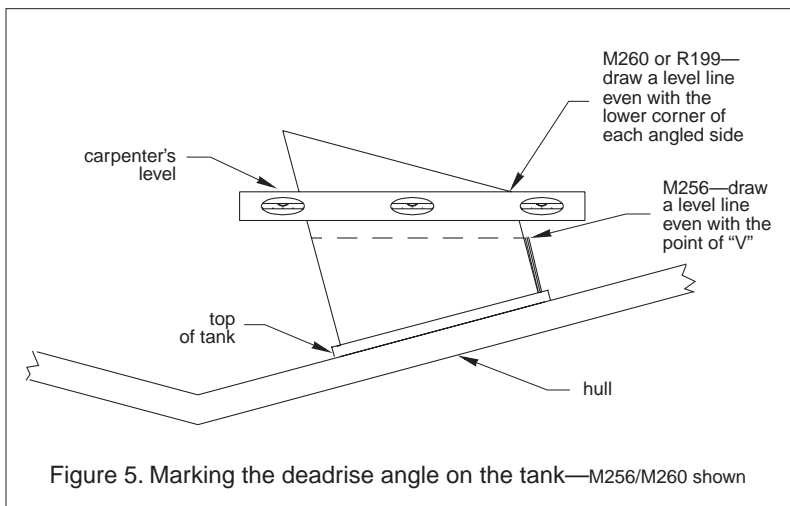
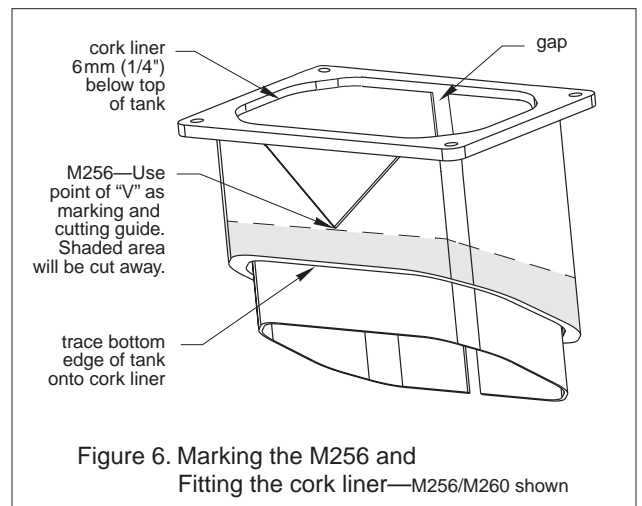

Figure 5. Marking the deadrise angle on the tank—M256/M260 shown
Figure 6. Marking the M256 and Fitting the cork liner—M256/M260 shown
1. When you are satisfied that the location of the transducer is optimal, place the tank *up-side-down* on the hull at the selected mounting location (see Figure 5). *Be sure the tallest side of the tank is nearest the centerline (keel) of the hull.*
**M256**—With a carpenter's level held against the short "V" side of the tank, draw a level line even with the point of the "V" (see Figure 6). Hold the carpenter's level against an angled side of the tank even with the line drawn and draw a level line (see Figures 5 and 6). Repeat this process on the opposite side of the tank. Connect the lines along the tallest side of the tank to form a continuous cutting guideline. *Be sure* the guideline is level.
4. The tank is provided with a cork liner to reduce sound echoes. After the tank has been cut, wrap the cork liner around the *inside* of the tank (see Figure 6). Butt the sides of the liner along the center of the tallest side. *Note, there may be a gap between the edges which will not affect performance.* Holding the cork liner 6mm (1/4") below the top of the tank, trace the bottom edge of the tank onto the liner with a pencil.